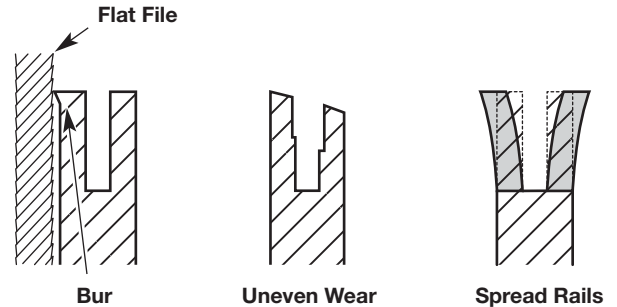

Fig. 40
3. Frequently check the guide bar for damage (Fig. 40). Feathering and burring of the guide bar rails (the ridges on either side of the bar groove) is a normal process of guide bar wear. Such faults should be smoothed with a file as soon as they occur (Fig. 40). A guide bar with the following faults should be replaced: